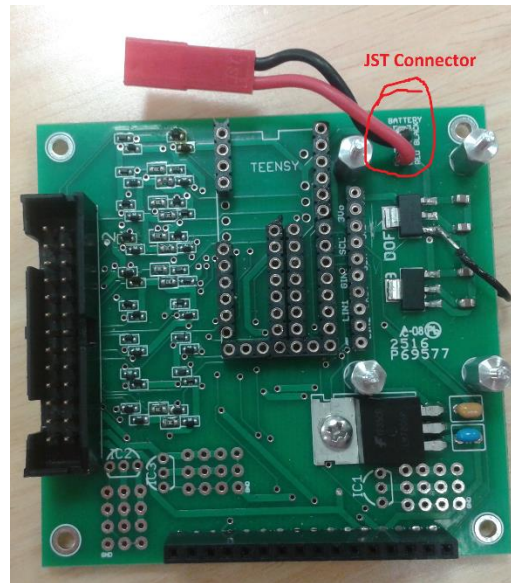

Figure 3. Battery JST Connector
- **Protection Diodes:** Part of your board is dedicated to protection diodes. The diodes protect sudden large voltages from killing the Teensy. They are arranged as shown in Figure 3. These diodes have been soldered for you.